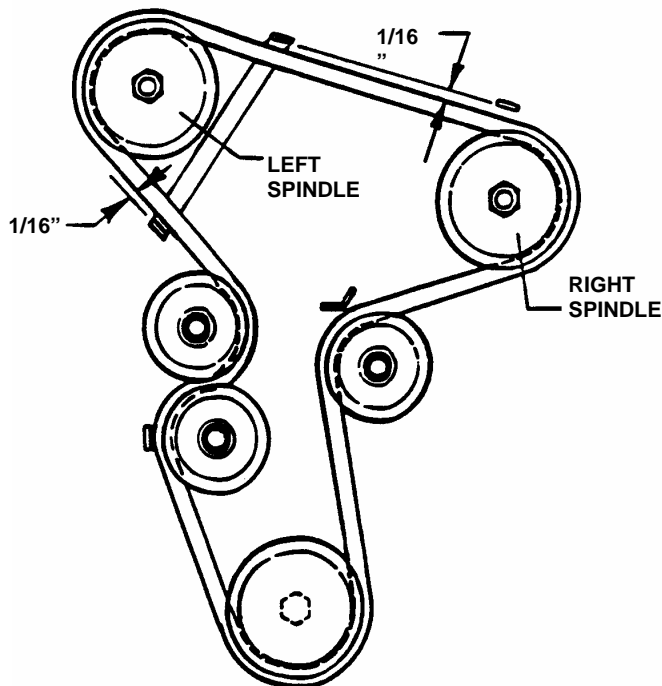

FIGURE 4.16
11. Adjust belt guide. See Figure 4.16 for proper belt-to-belt guide clearances.
Cables must be connected to battery terminals in the proper position as show in Figure 4.16. DO NOT attempt to charge battery while installed on the Rear Engine Rider. DO NOT use "BOOST" chargers on the battery.